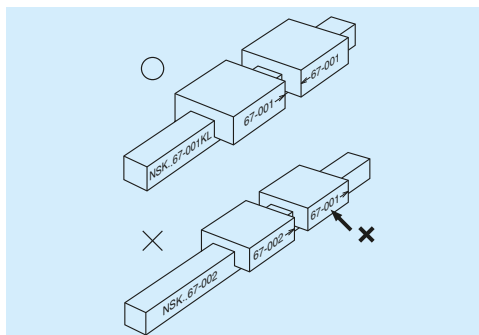

Fig. 10.28
- If slides had to be removed from the rail, confirm their serial numbers and the directions of arrows for re-assembly (**Fig. 10.28**).